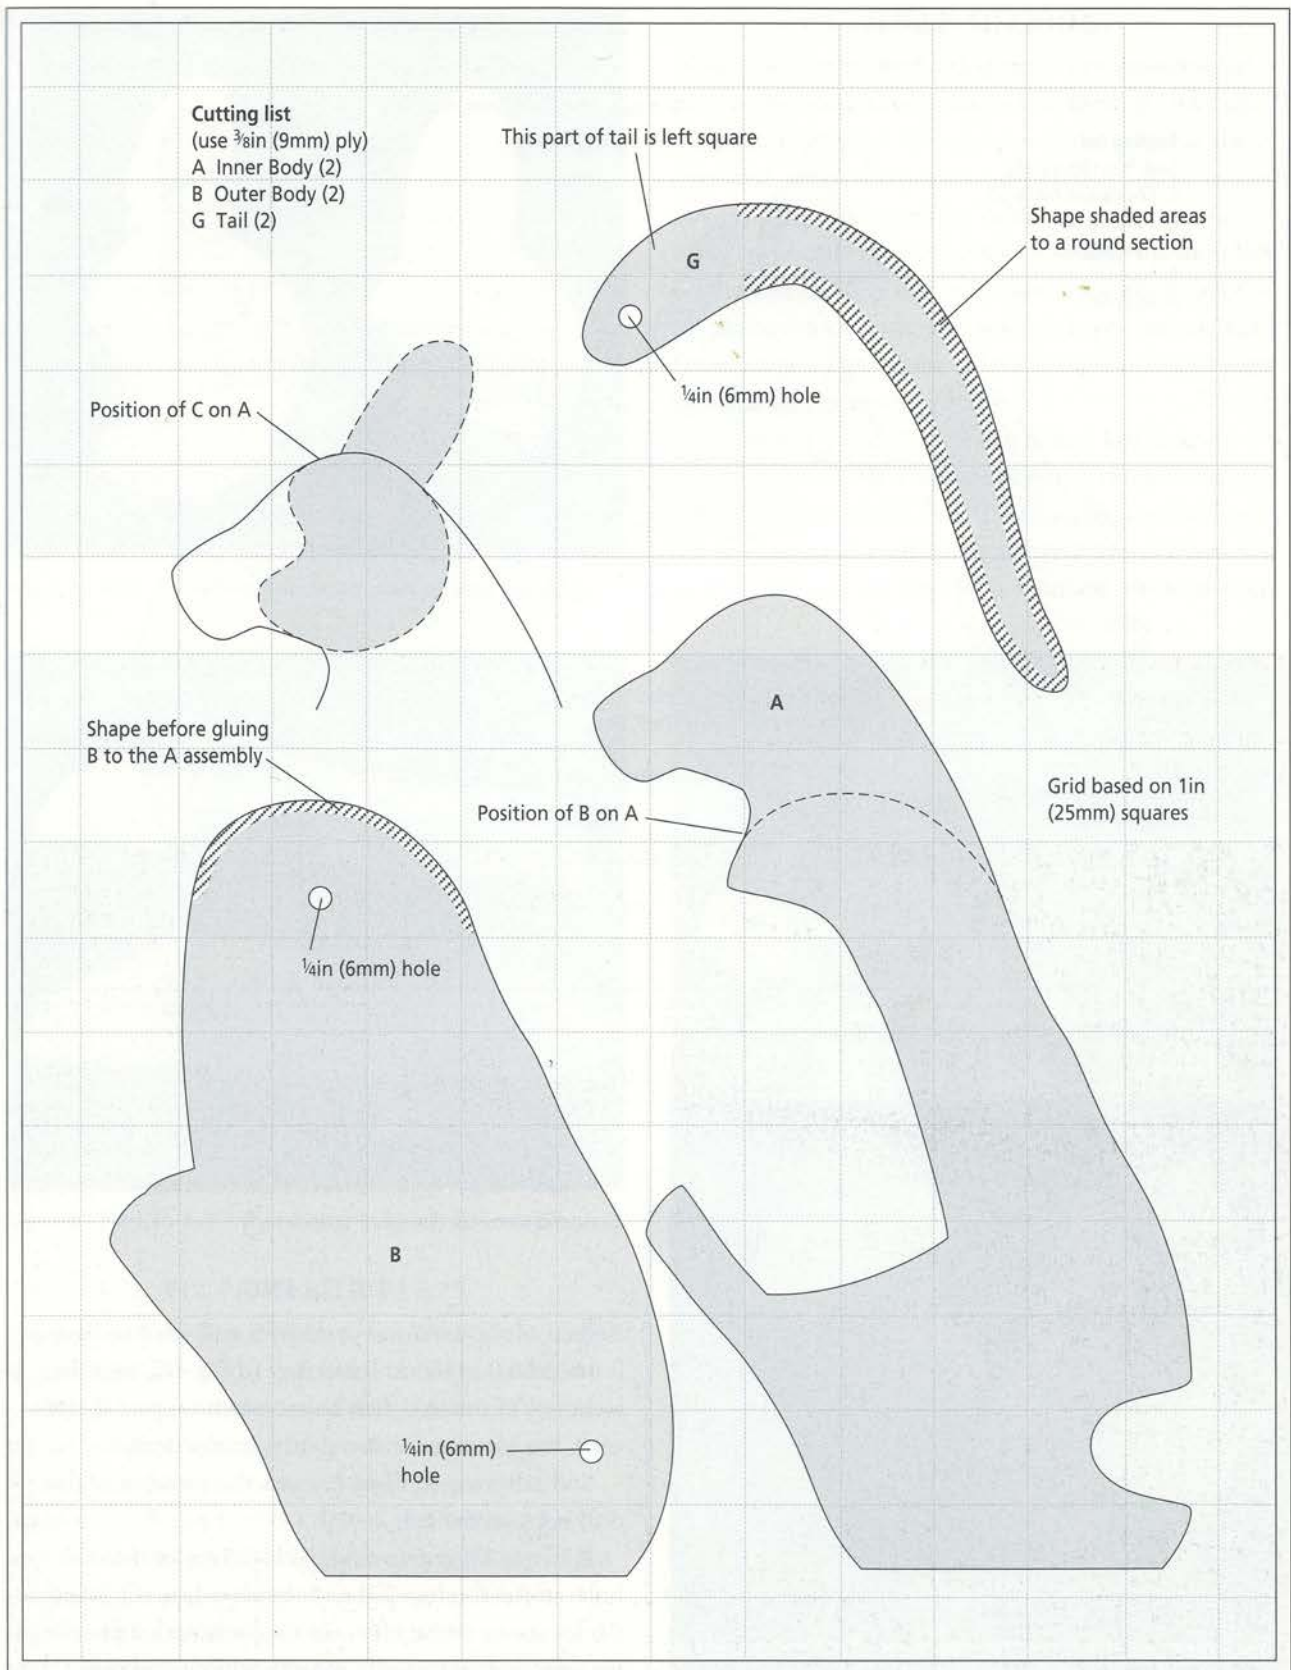

Fig 4.2 Cutting list for A, B and G.
Notice in Figs 4.2 and 4.3 the diagonal lines on parts B, C and F. These lines indicate areas that need to be shaped before the parts can be glued to other parts. (After shaping, B and C will be glued to the A assembly. F will be glued to E.)
Glue and pin one B and one C to each side of the A assembly. Refer to Fig 4.2 for locations. Make sure the edges of the A assembly and the B parts are flush and that their bases are level before pinning.
Several of the parts and assemblies will need to have holes drilled in them. Referring to Fig 4.2, find the locations of the two drill holes shown on part B and mark the locations with a pencil on the body.
Still referring to Fig 4.2, mark the position of the drill hole on the tail.
Refer to Fig 4.2. Notice the dotted line near the base of the tail (G). This line indicates the boundary where shaping should end. Take up the rasp and round off all edges of the tail. Give the tail a round cross-section. Do not rasp on the base side of the dotted line.